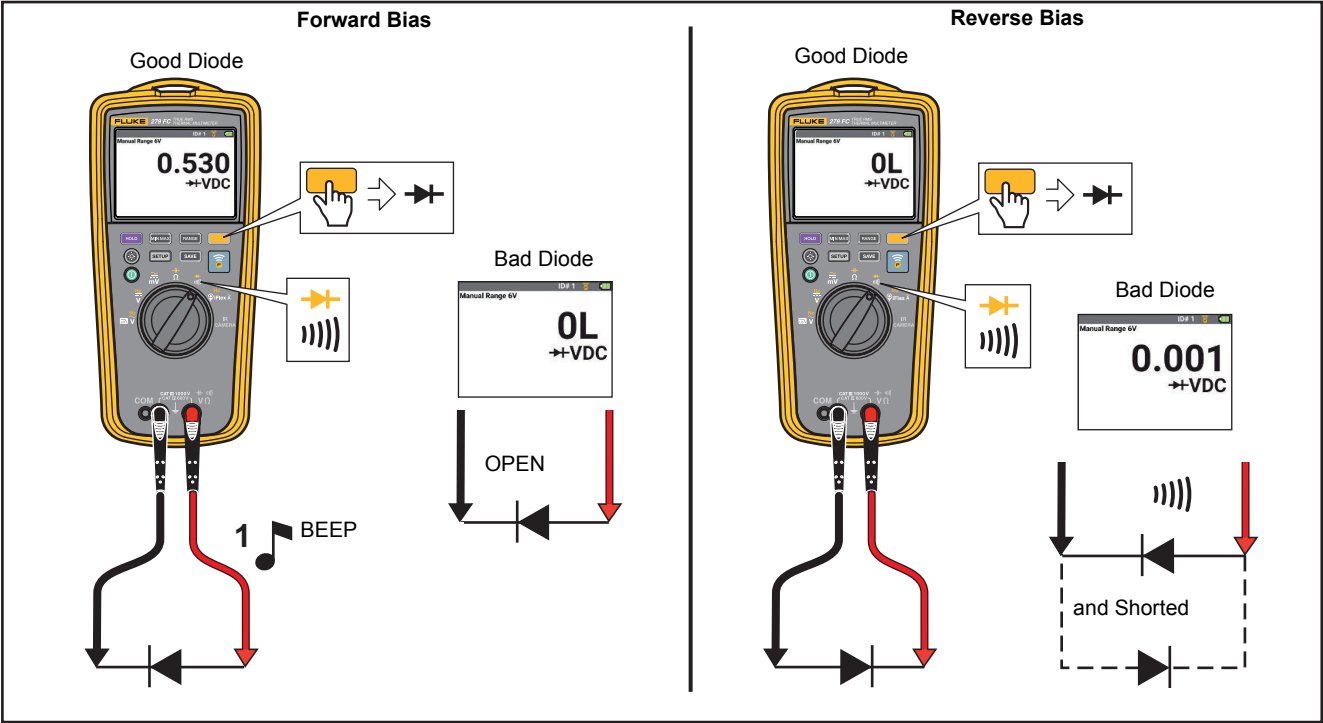

Figure 11. Diode Test
- Diode Test. See Figure 11.
For a diode test on a diode out-of-circuit, set up the Multimeter as shown in Figure 11. For forward-bias measurements on a semiconductor component, put the red test lead on the positive terminal of the component and put the black test lead on the negative terminal of the component.